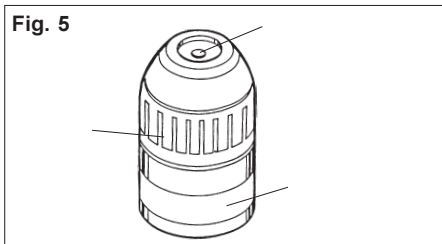

Fig. 5
**Installing Bits into Keyless Chucks (Fig. 5)**